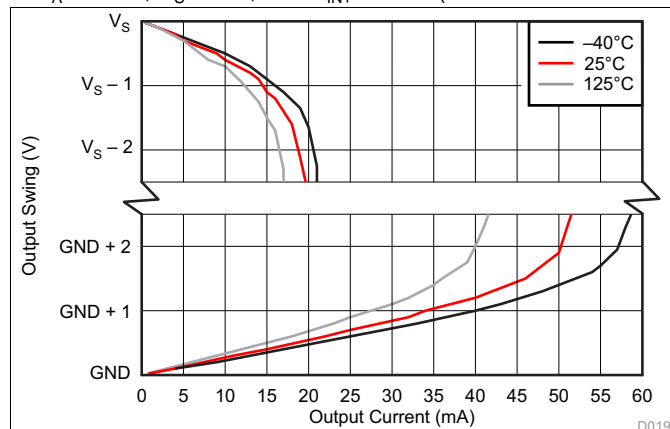

Figure 19. Output Voltage Swing vs Output Current
(1) RTI = referred-to-input.
(2) Offset voltage is obtained by linear extrapolation to  $V_{SENSE} = 0\text{ V}$  with  $V_{SENSE} = 10\%$  to  $90\%$  of full-scale-range.
(3) See Figure 19.
(4) Swing specifications are tested with an overdriven input condition.